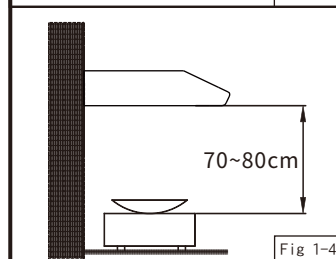

Fig 1-4
6. It's suggested to 70-80 cm height between cooking Surface and vertical front of machine (Fig1-4).